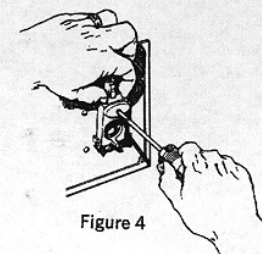

Figure 4
a. With the firing gauge in position, raise the weight up against the guide plate and then slowly swing it forward. The trigger should just clear the tip of the claw, as shown in Figure 3. The set screw in front of weight may be loosened to raise or lower trigger, as shown in Figure 4. Set screw must be firmly retightened or the force of repeated falling of the weight may cause the trigger to creep out of adjustment.